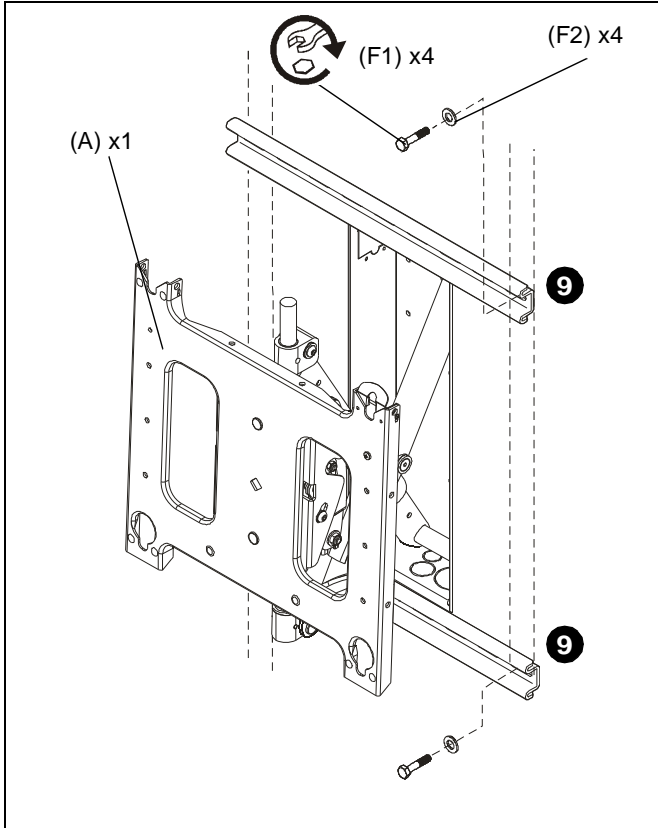

Figure 7
9. Secure mount to studs using four flat washers (F2) and four Lag screws (F1). (See Figure 7)